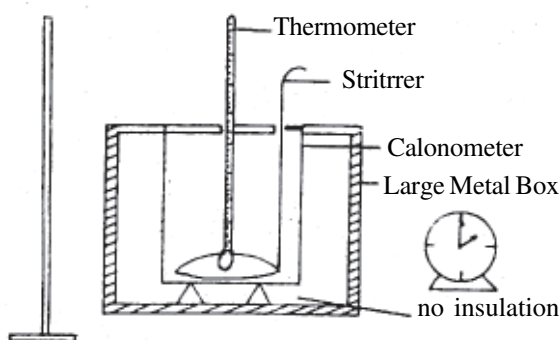

Fig. 6.1 : Newton's law apparatus
- (iv) Set up the apparatus as in Fig. 6.1.